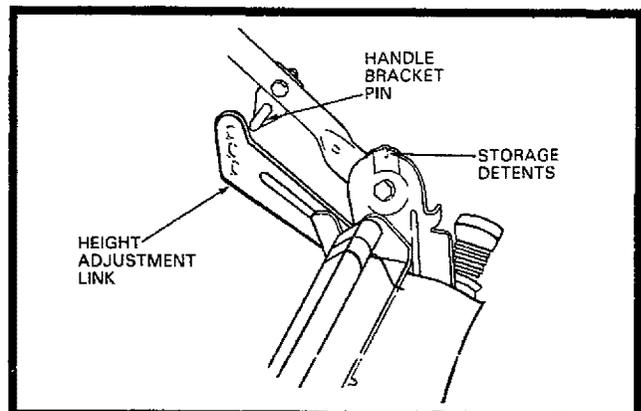

FIG. 2
- Lower the entire handle assembly to the mowing position and engage the height adjustment links onto the handle bracket pins (See Fig. 2). See "Adjust Handle" section, page 13 to select the most comfortable mower handle position.